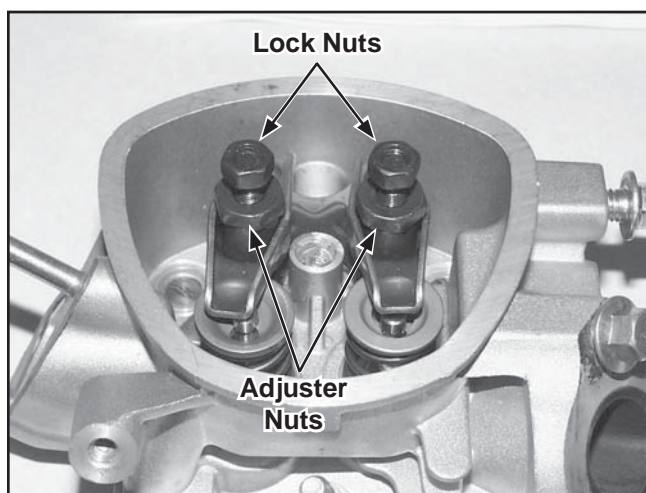

Figure 9-31. Rocker Arm Removal.
2. Loosen and remove the rocker arm lock and adjuster nuts. Remove the rocker arms and push rods. See Figure 9-31.